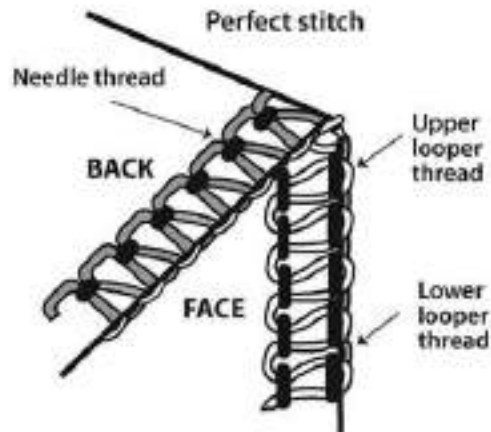

Figure 1. A properly tensioned overlock stitch.
- **When the stitch is properly adjusted, the upper looper thread will be smooth against the right side of the fabric and the lower looper will be smooth against the wrong side of the fabric.** These threads will meet and interlock evenly along the edge of the fabric. The needle thread will be seen as a long straight stitch on the right side and a shorter straight stitch, which is more widely spaced, on the wrong side (Figure 1).